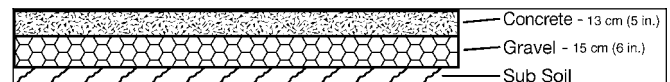

FIGURE 12. Concrete pad around stock tanks and nose pumps.
- 13 cm (5 in.) depth of concrete with roughened surface over 15 cm (6 in.) gravel and geotextile fabric (*Figure 12*).